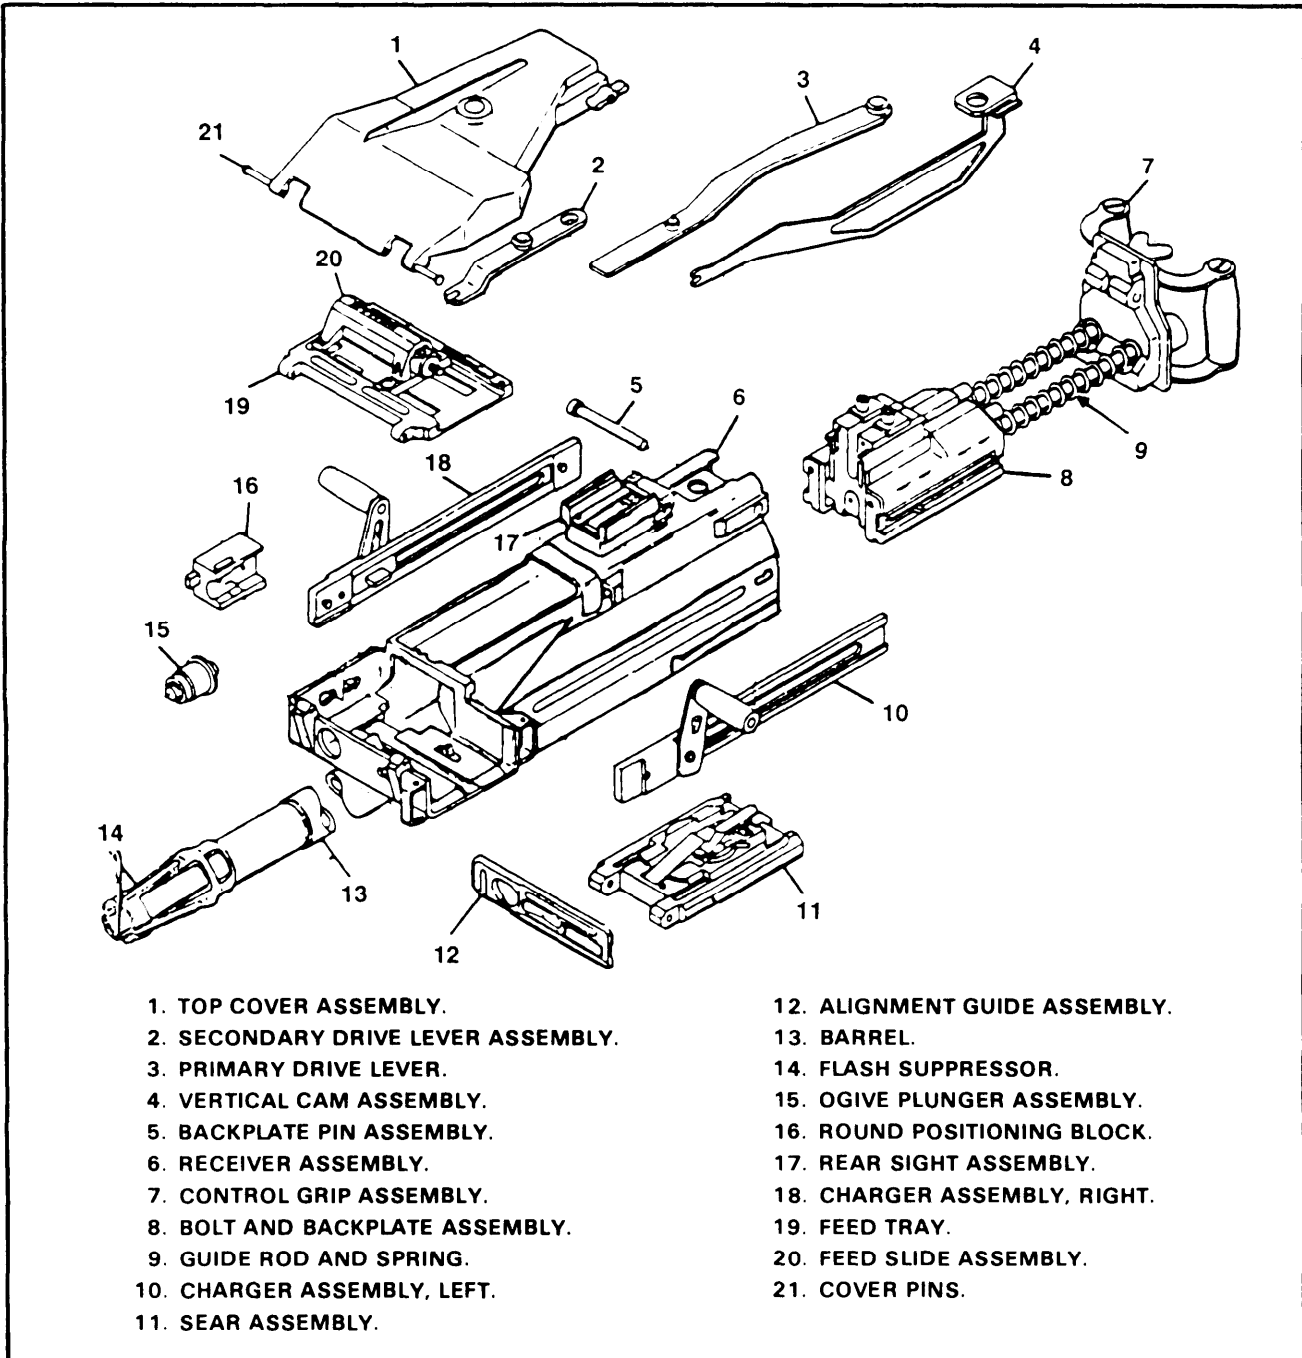

Figure 2-18. MK 19 disassembled.
b. Assembly. To assemble the gun, replace the groups in the reverse order from the order in which they were taken off (Figure 2-18).